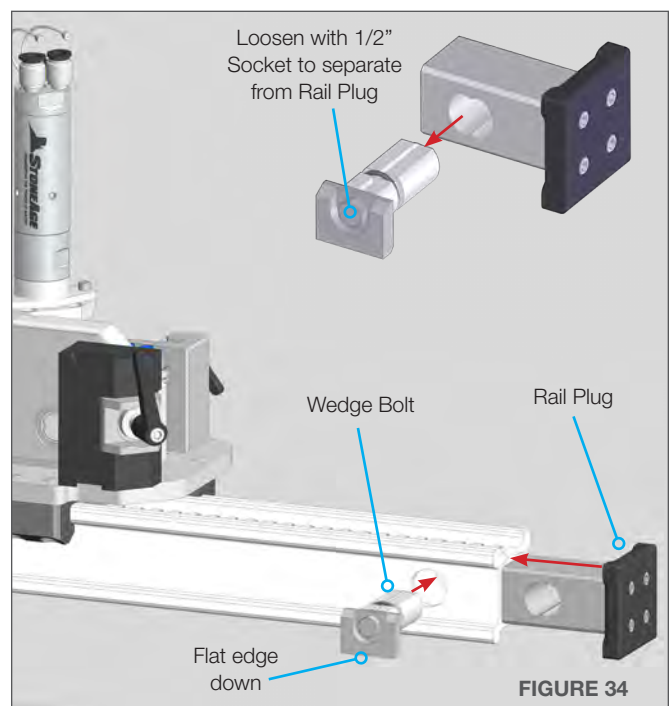

FIGURE 34
17. Separate the Wedge Bolt from the Rail Plug with a 1/2" Ratcheting Socket Wrench. **(Figure 34)**
18. Insert the Rail Plug into the end of the Drive Rail opposite the Rotary Drive. Insert the Wedge Bolt through the Rail and Rail Plug then tighten the Wedge Bolt with a 1/2" Ratcheting Socket Wrench **(Figure 34)**
Make sure the Wedge Bolt is oriented as shown in **(Figure 34)**. If it is installed upside down it will obstruct the path of the Linear Drive.